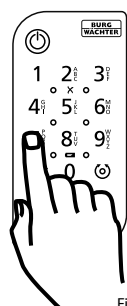

Fig. 106
- 2 Enter your administrator or user code and check that the cylinder is activated (fig. 106).